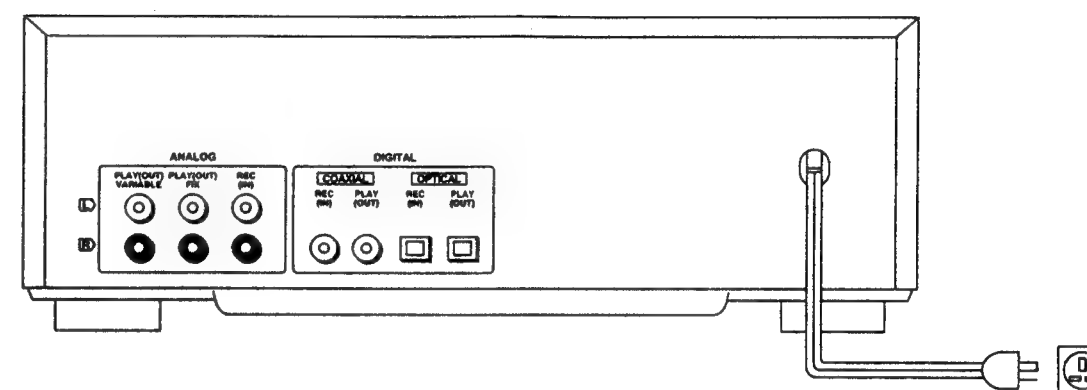

Fig. 6
- While keeping your finger in the position given in Fig. 6. Press another finger on the head of the Supply reel cap, and turn the right side Azimuth screw to the right. (Control the range of movement to the left and right of the CH1 waveform.)